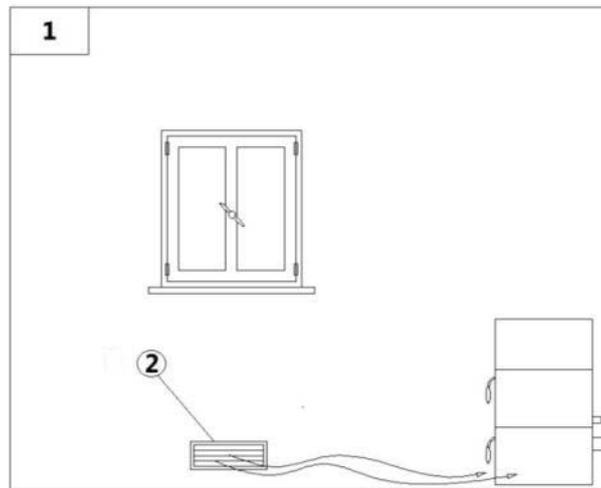

Fig. 9 - Direct air inflow
LEGEND	Fig. 9
- The air inflow from outside to the inner occurs directly, through an opening on the external wall of the room (see **Fig. 9**).